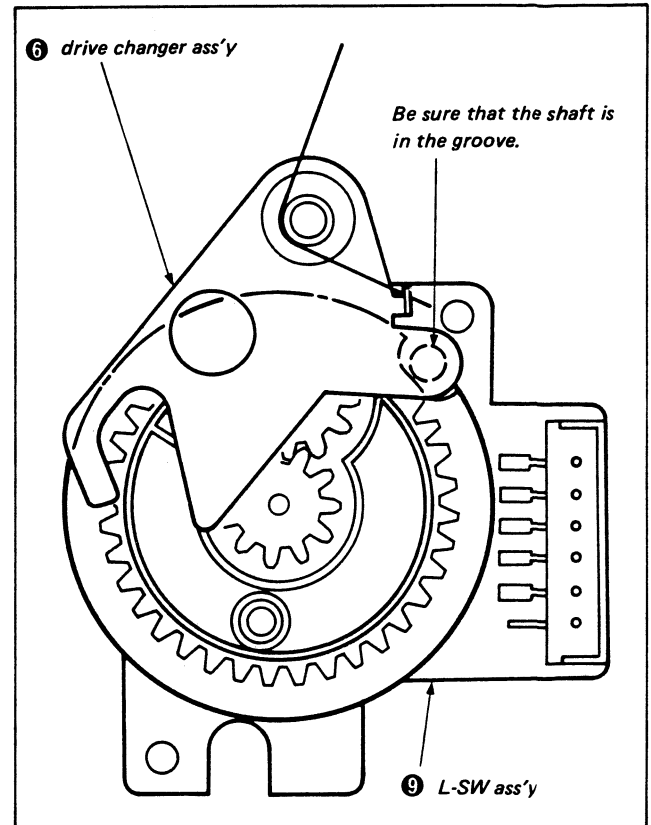

Fig. 3-31.
- 12) Operate the mode selector and set to the position in Fig. 3-31.